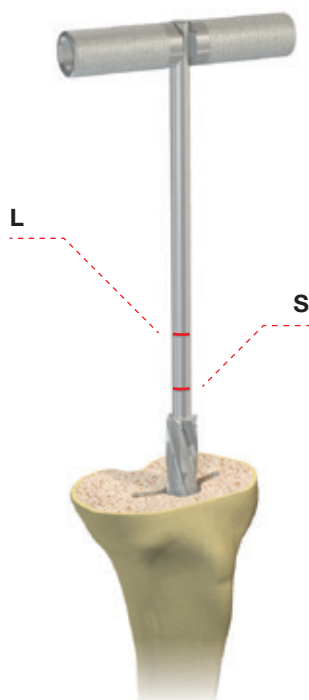

Figure 4
If the second line (L) is reached, it means a long stem is needed (*Fig. 4*). Therefore use the trial tibial stem connected with the chosen tibial trial offset module (straight/+3mm/+6mm and the extension module (long) (9066.47.615). The final implant will consist of the definitive stem and the “L” module (*Tab. 1*).